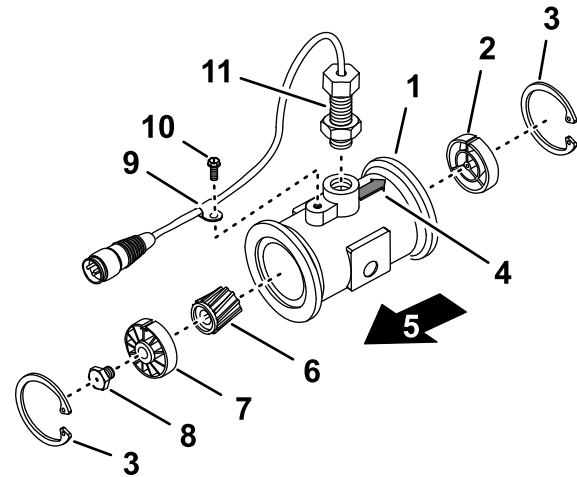

Figure 111
- Remove the retainer ring on the upstream side (Figure 111).